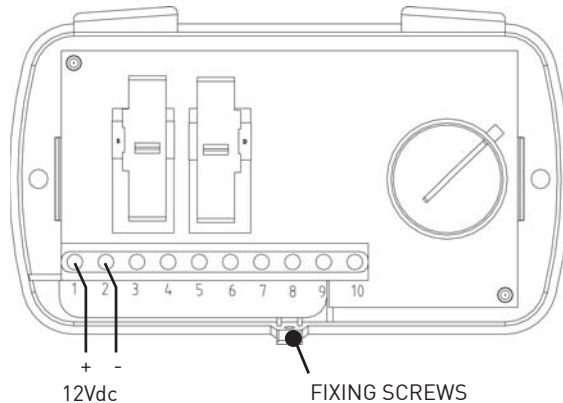

Figure 12
1. Unscrewing the fastening screws, remove the cover of the control unit. Connect the power supply output (DC OUT) to the control unit respecting the polarity (Figure 12).